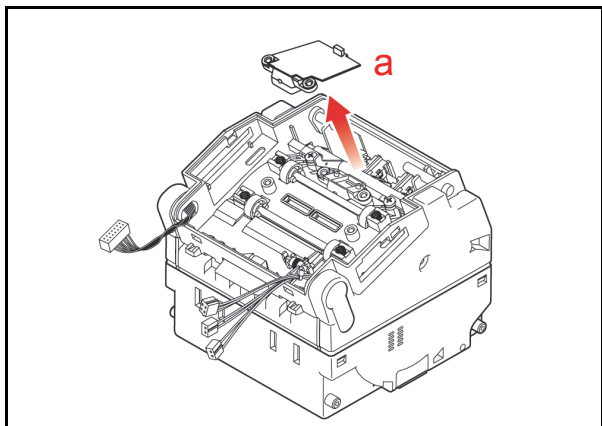

Figure 4-5 Taiko MAG Circuit Board Disconnect
4. Remove the MAG Circuit Board from the Assembly (See Figure 4-5 a).